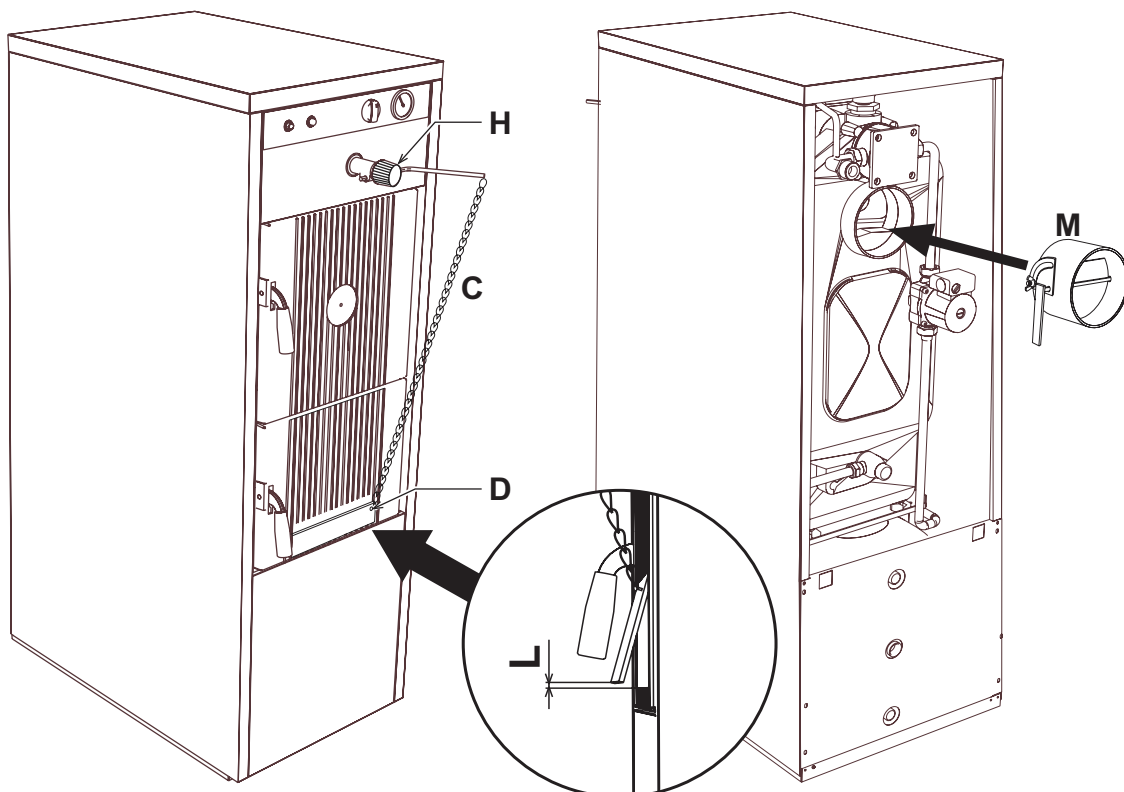

fig. 2 - Installation
2. Fit the thermostatic control "H" fig. 2.
3. Fit the draught control "M" fig. 2 and connect the boiler to the flue.
5. Adjust the air inlet door adjustment screw so that in any case there remains an air passage of not more than 1 - 2 mm. With the boiler cold, set the thermostat to 60°. Hook the chain "C" to the special air inlet door eyelet "D", adjusting its length so that the air passage "L" (fig. 2) is approx. 15 mm for "coke III" and 2 mm for "wood".
Adjust the air inlet door adjustment screw so that in any case there remains an air passage of not more than 1 - 2 mm. With the boiler cold, set the thermostat to 60°. Hook the chain to the special air inlet door eyelet, adjusting its length so that the air passage "L" (fig. 2) is approx. 15 mm for "coke III" and 2 mm for "wood".